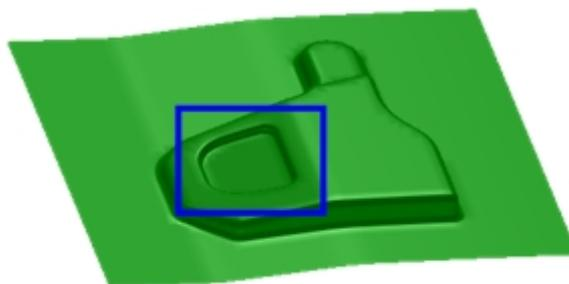

Figure 5.58 Cam formed feature
30. The working directions of the defined tools are along the Z direction of Global Coordinate System. However, the feature encircled in Figure 5.58 cannot be formed along the working direction due to back draft angle. Therefore, a separate process with different working direction is needed to facilitate cam forming operation in making of the feature.